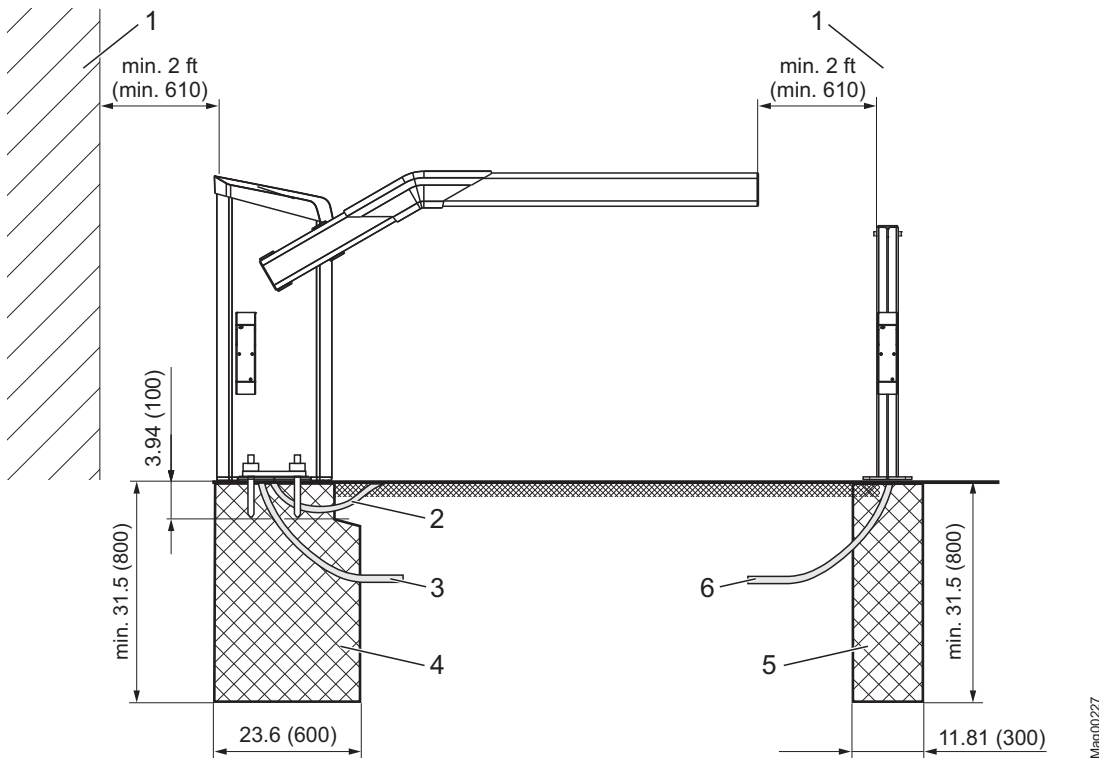
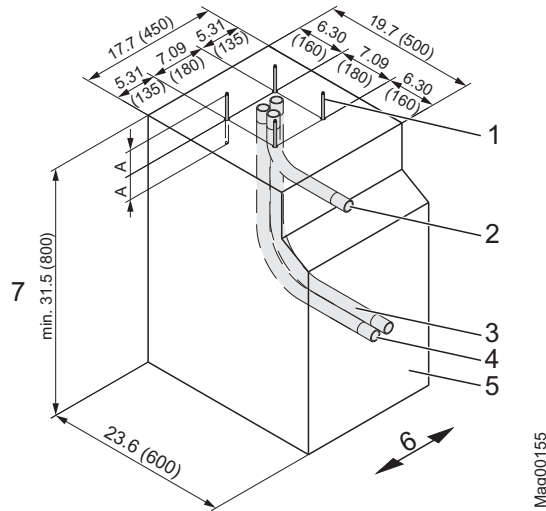
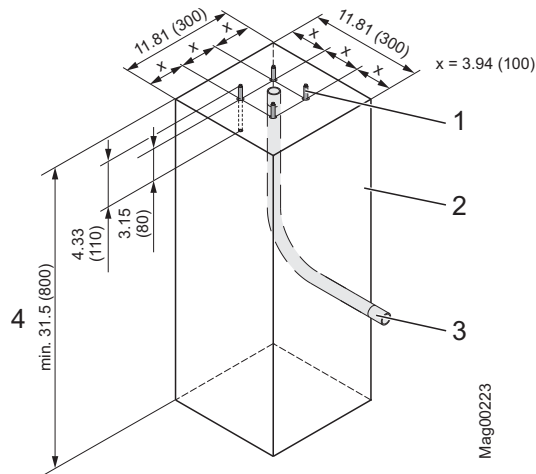

Fig. 14: Assembly boom system
Fig. 15: Foundation plan
Fig. 17: Foundation plan for light barrier post
<p>WARNING!  Danger of crushing and shearing when the barrier opens or closes!</p> <p>When a barrier opens or closes, the barrier arm may lead to severe crushing or injury!</p> <p>Therefore:</p> <ul style="list-style-type: none"> <li>– Keep a safety distance of at least 2 ft (610 mm) between the barrier arm and other objects, such as walls, masonry or houses. → See also page 28, chapter 2.7</li> <li>– Install the barrier system only when all exposed pinch points are eliminated or guarded.</li> <li>– Assemble and install barrier system according to Fig. 14.</li> <li>– Controls intended for user activation must be located at least 6 ft (1.83 m) away from any moving part of the barrier and where the user is prevented from reaching over, under, around or through the barrier to operate the controls. Outdoor or easily accessible controls shall have a security feature to prevent unauthorized use.</li> </ul>
→ See page 28, chapter 2.7 and page 56, Fig. 14
→ See page 56, Fig. 14 and page 58, Fig. 15.
→ See page 56, Fig. 15.
1. Dig foundation hole pursuant to Fig. 14 and Fig. 15.
3. Place empty conduits pursuant to Fig. 15 in the foundation hole.
5. Fill concrete foundation pursuant to Fig. 14.
→ See page 56, Fig. 14 and page 60, Fig. 17.
1. Dig foundation hole pursuant to Fig. 14 and Fig. 17.
2. Place empty conduit pursuant to Fig. 17 in the foundation hole.
4. Fill concrete foundation pursuant to Fig. 17.